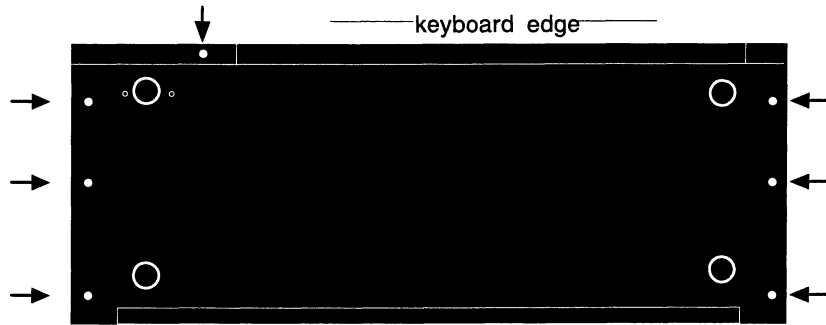

Figure 3 - MR-61 Screw Locations
3. For the MR-61, remove 7 screws from the bottom of the unit (see figure 3). For the MR-76, skip to step 6):